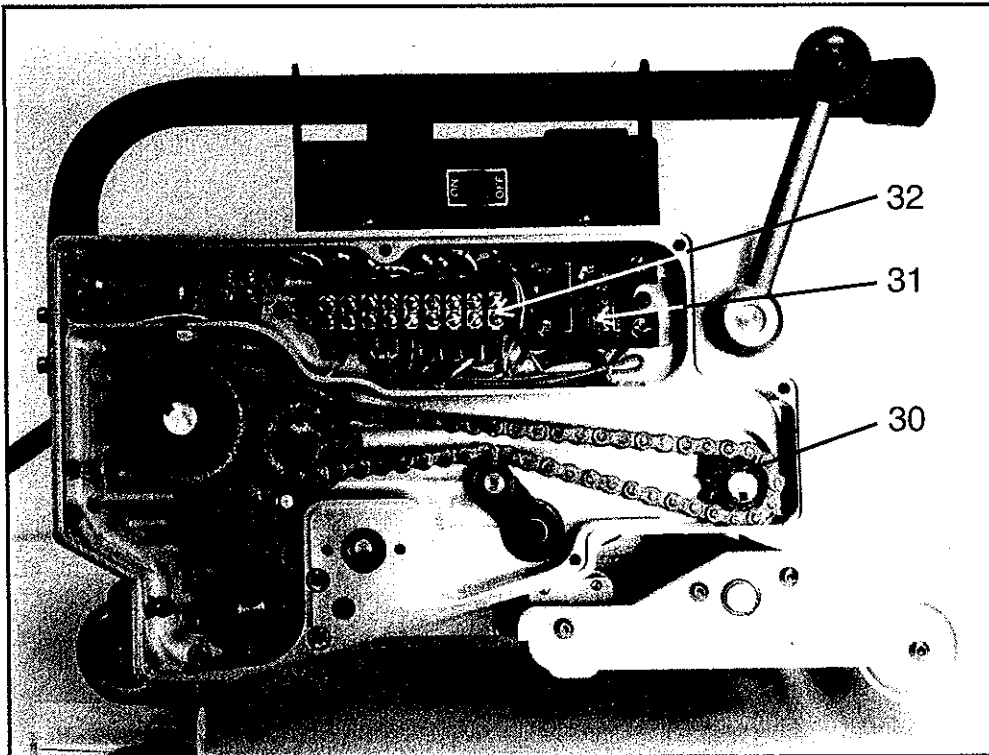

FIGURE 7
- A. Remove Wedge Movement Handle, Lock-In Plate, and Side Cover to expose Main Drive Mechanism and Main Wiring Terminal (See Figure 7).
- B. Disconnect Thermocouple and Heat Cartridge Wires from Terminal Block, Figure 7 (32).